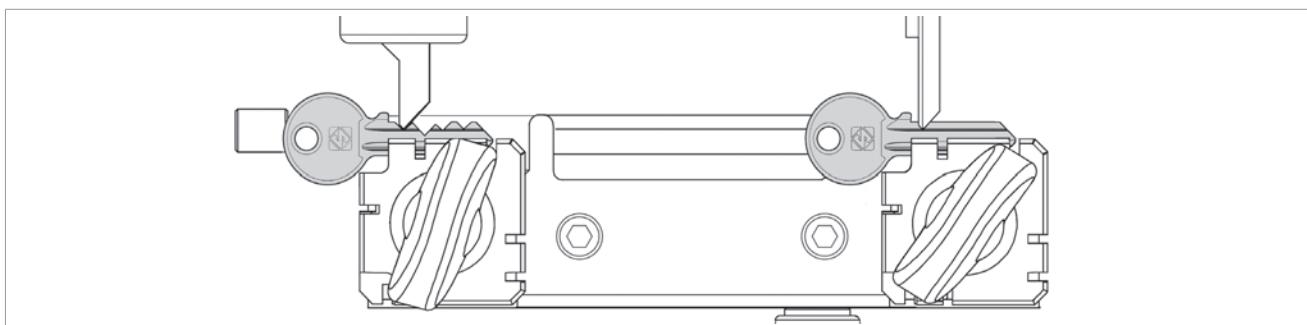

Fig. 25
- 1) Use handle (A) to take the carriage towards the tracer/cutter and hold the tracer against the cut, starting at the key stop (Fig. 25).
- 2) To make a copy of the key, move the carriage from right to left with knob (B). In case of double cuts repeat the operation in the second side of the key.
- 3) Turn off the machine with switch (N) before removing the duplicated key.
- 5) Turn on the machine with switch (N) and smooth off the key edges by means of the brush (M).